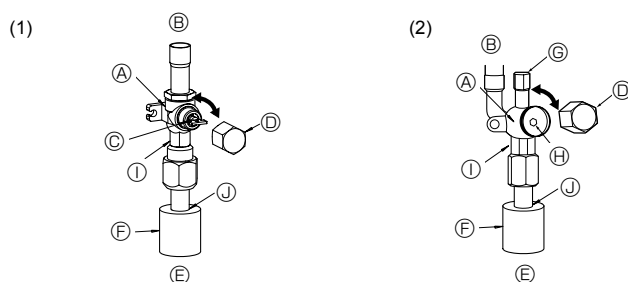
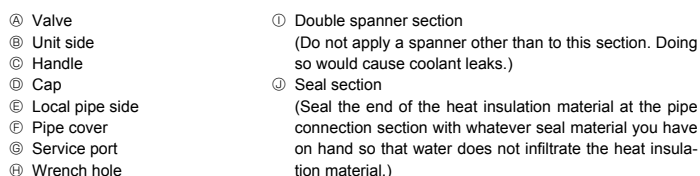

Fig. 4-5
Fig. 4-6
- (1) Gas side of P71-140 (Fig. 4-5)
- ① Remove the cap, pull the handle toward you and rotate 1/4 turn in a counterclockwise direction to open.
- ② Make sure that the stop valve is open completely, push in the handle and rotate the cap back to its original position.
- (2) Liquid side of P71-140 (Fig. 4-6)
- ① Remove the cap and turn the valve rod counterclockwise as far as it will go with the use of a 4 mm hexagonal wrench. Stop turning when it hits the stopper. (ø9.52: Approximately 10 revolutions)
- ② Make sure that the stop valve is open completely and rotate the cap back to its original position.